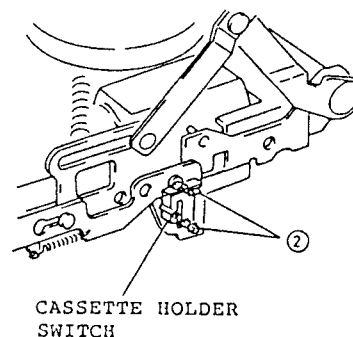

Fig. 2-60
2. Release two (2) tabs on the cassette holder switch. (See Fig. 2-60)